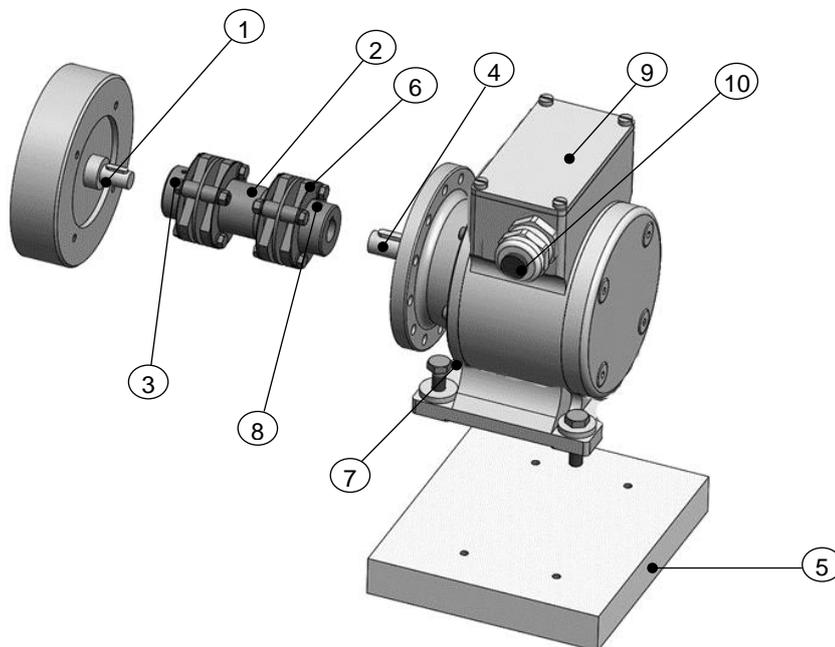

Fig. 3-2: Example design B35
3. Open the junction box cover (9) (Fig. 3-2).
4. Remove the locking bolts on the cable glands (10) (Fig. 3-2). The cable gland for the supply cable is an EMC cable gland.